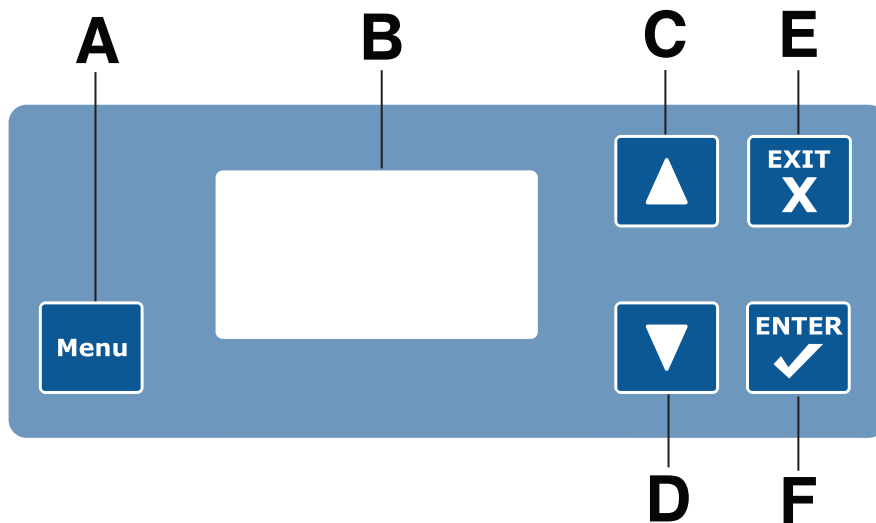

Figure 40 – Menu
To access a menu option, press **Menu** (A) (Figure 40).
1. Press **Menu** (A) (Figure 40).
3. Press **Enter** (F) (Figure 40).
3. Press and hold **Enter** (F).
5. Press **Enter** (F) (Figure 40).
7. After you add or remove equipment or devices from the product, press **Enter** (F) (Figure 40).
1. Press **Menu (A)** (Figure 40).